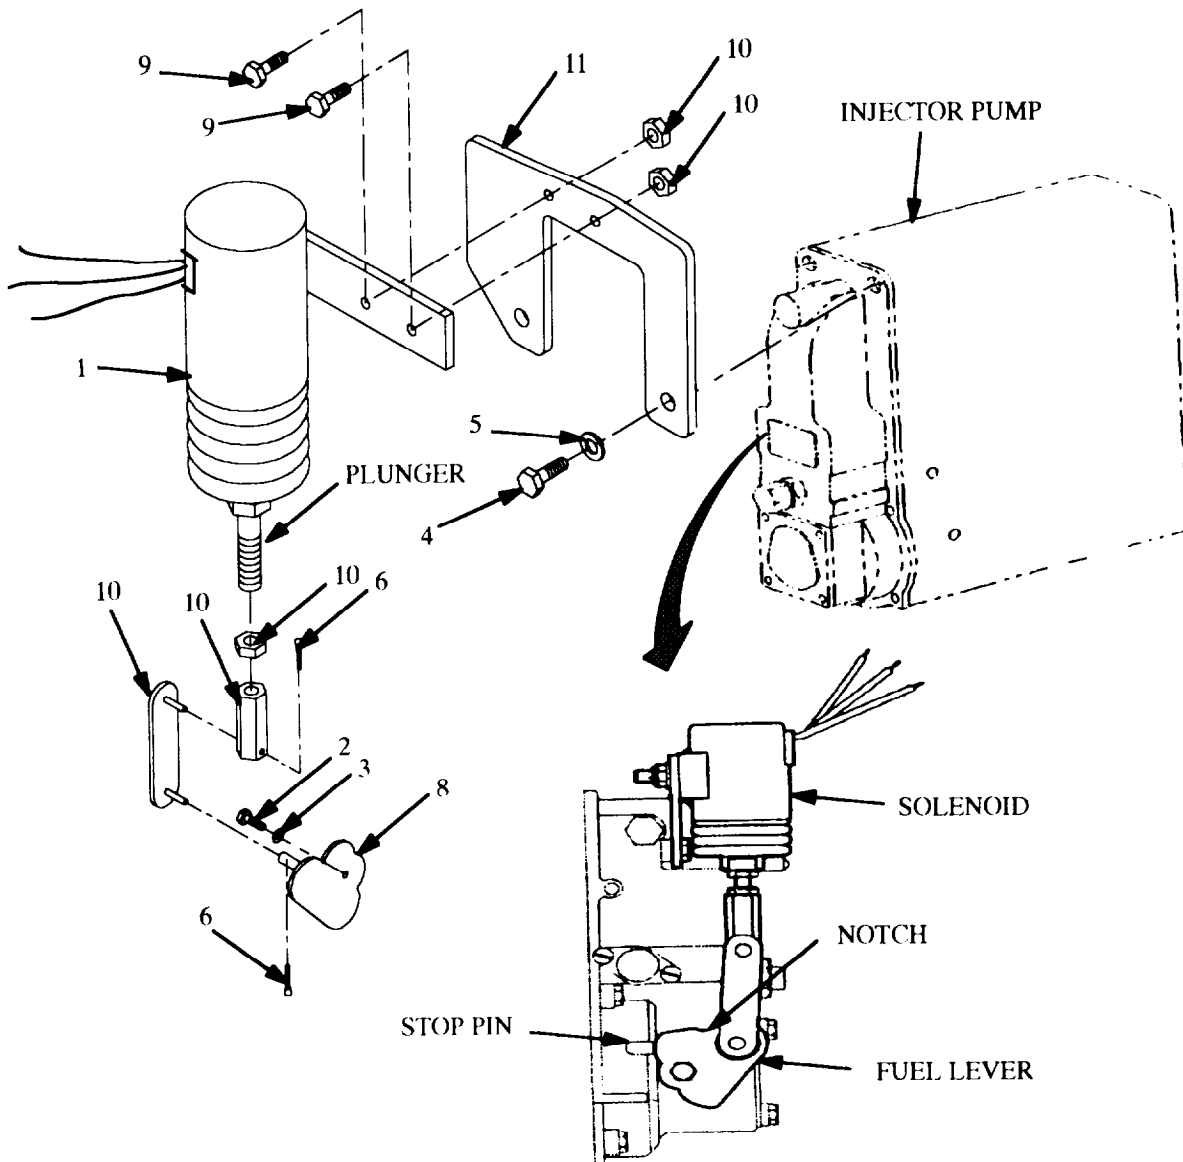

Figure 4-19. Shutdown Solenoid Maintenance (Model 350 PAWN).
- a. Tag and disconnect wires (figure 4-19, 1, 2, and 3).
- b. Remove nut (4), lockwasher (5) and spacer (6).
- c. Remove nuts (7), lockwashers (8), clamp (9) and bolts (10).
- d. Remove shutdown solenoid assembly (11) with linkage.